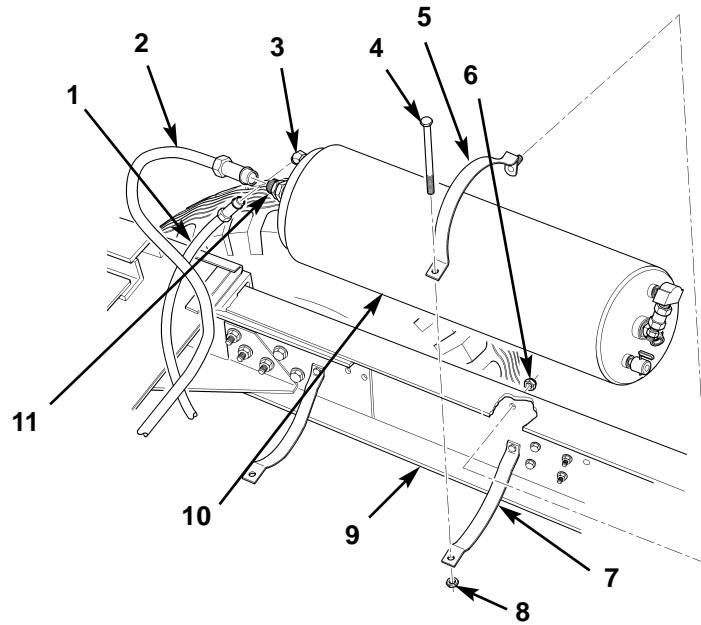

Figure 55. Removing Primary Reservoir.
31. Remove two nuts (figure 55, item 8) and screws (figure 55, item 4) from primary reservoir upper and lower clamps (figure 55, items 5 and 7).
32. Remove two nuts (figure 55, item 6) and upper clamps (figure 55, item 5) from right frame rail (figure 55, item 9) and primary reservoir (figure 55, item 10).
33. Slide primary reservoir (figure 55, item 10) back from crossmember, and disconnect tube (figure 55, item 1) from elbow (figure 55, item 3) and tube (figure 55, item 2) from adapter (figure 55, item 11). Cut off and discard end of 3/8 in. (9.5 mm) tube (figure 55, item 1).